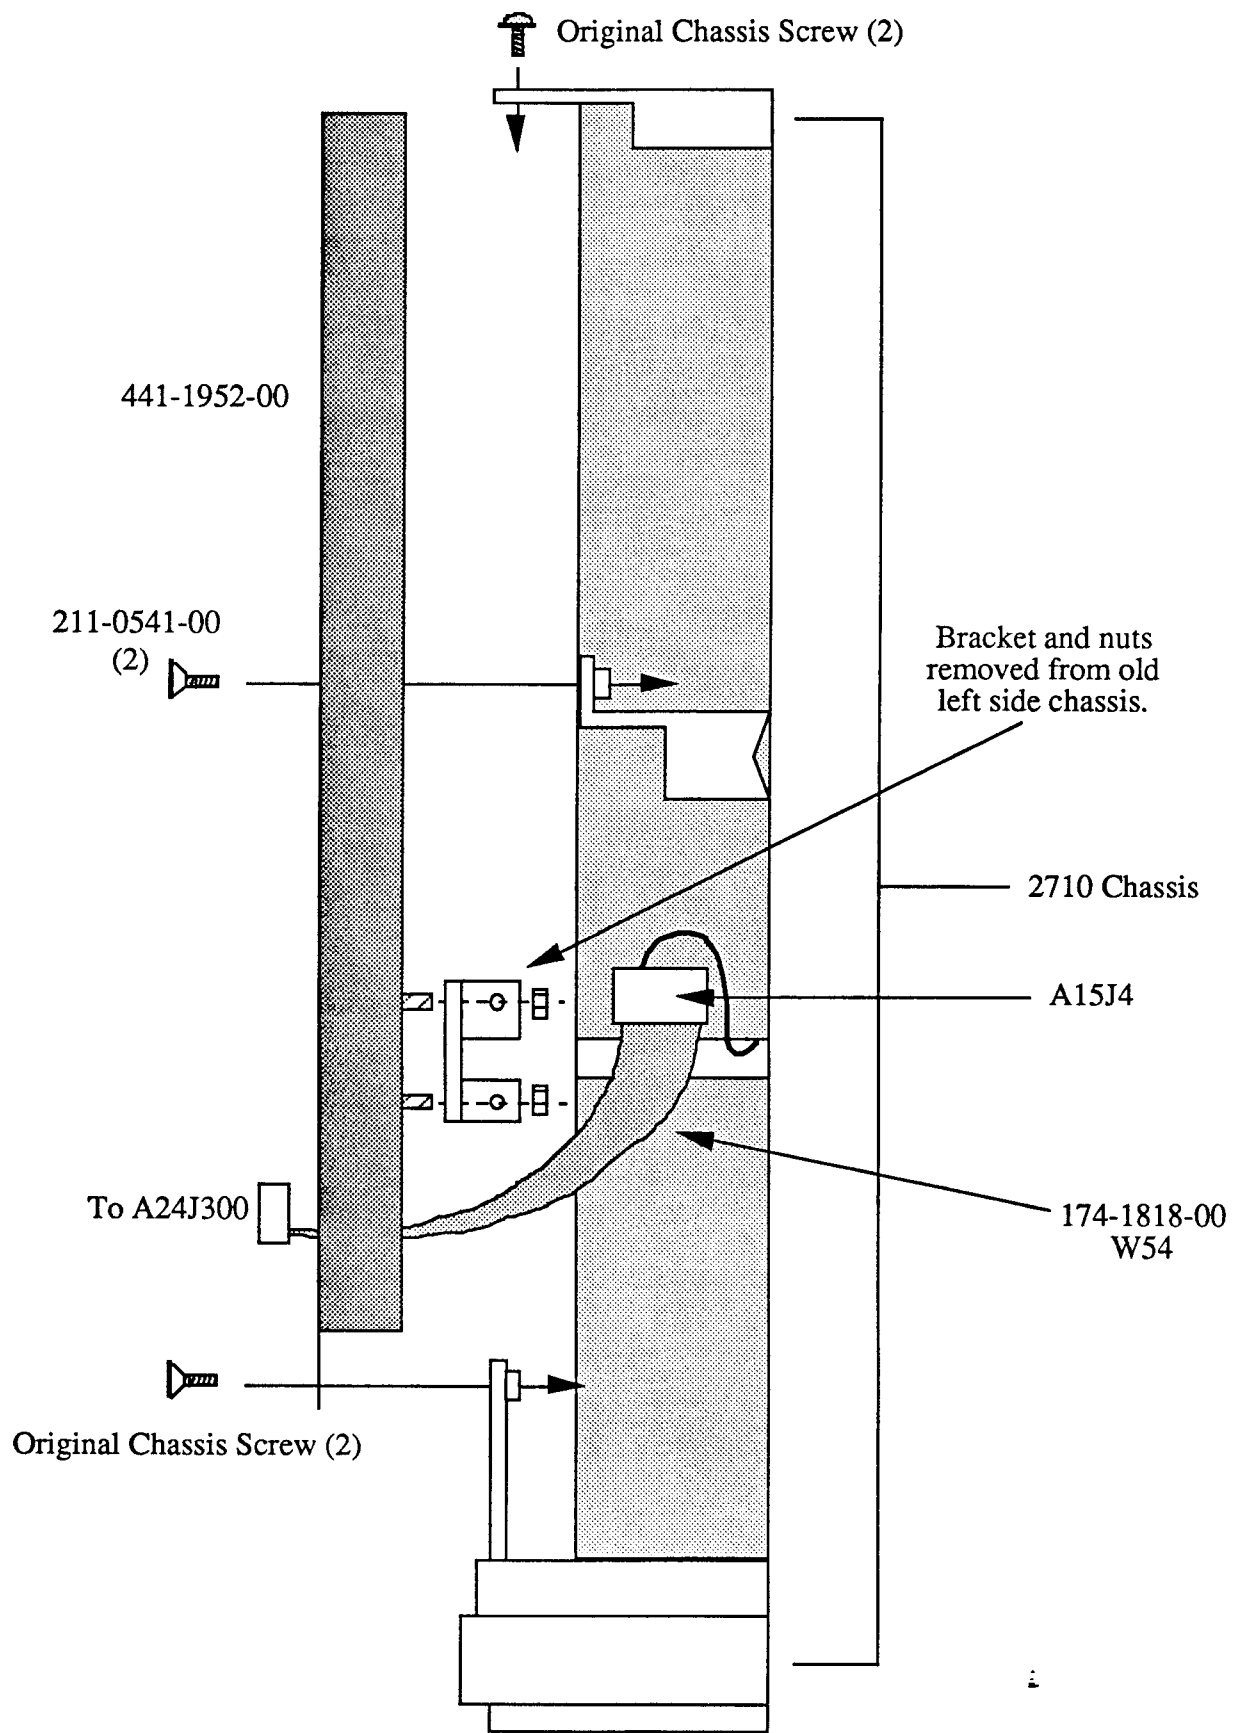

Figure 5.
- (c) Remove the bracket from the old left side chassis and install it on the Tracking Generator chassis, 441-1952-00. See Figure 5.
- (d) Install the Tracking Generator chassis onto the 2710 chassis. See Figure 5. Be sure to use the 2 flat-head screws, 211-0541-00 in the location indicated in Figure 5.